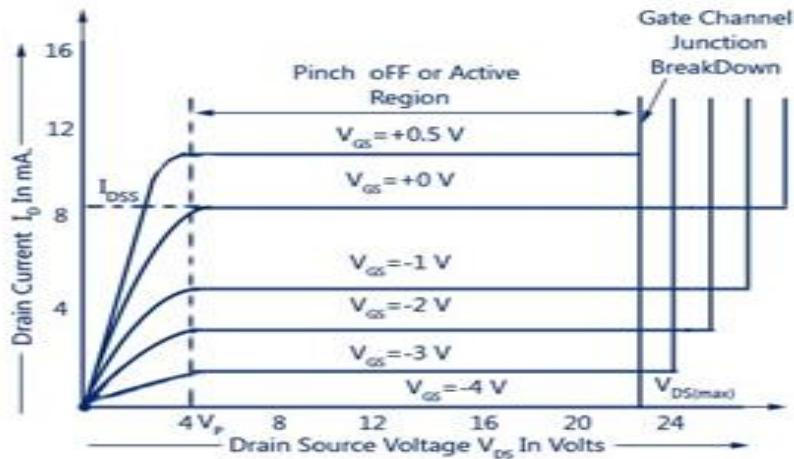

Fig. 4.6 Waveforms of Drain characteristics of JFET
- The curve drawn between drain current  $I_D$  and drain-source voltage  $V_{DS}$  by keeping gate-to-source voltage  $V_{GS}$  as constant as shown in figure 4.6.